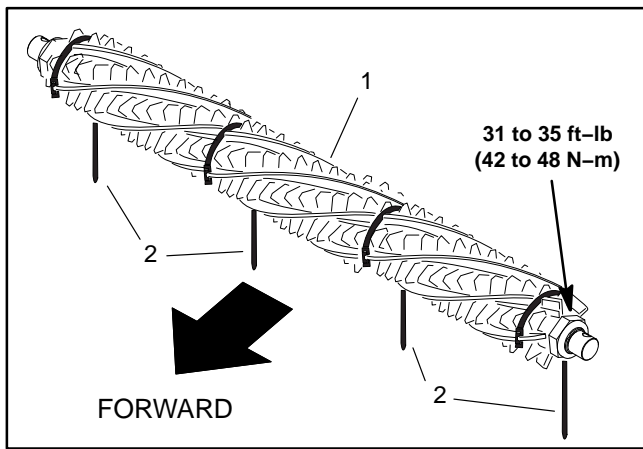
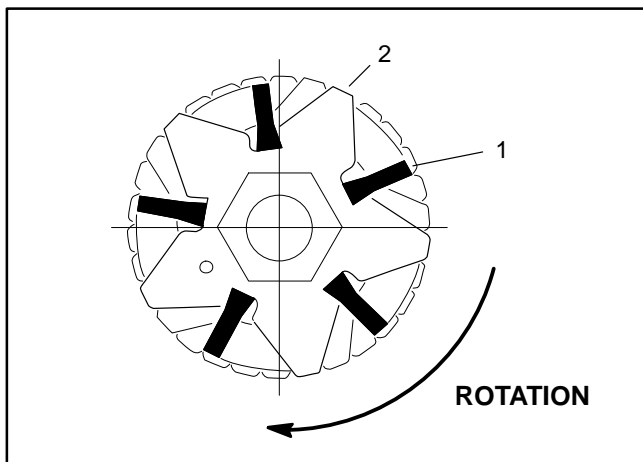

Figure 10
Figure 11
B. Slide a brush into each groove around the full length of the groomer reel (Fig. 10). Make sure brushes are seated in groomer blade slots (Fig. 11)
C. Loosely wrap the straps around the groomer reel shaft and brushes as shown (Fig. 10). Straps should be positioned in the pre-cut notches of each brush and at the following locations on the broomer shaft: